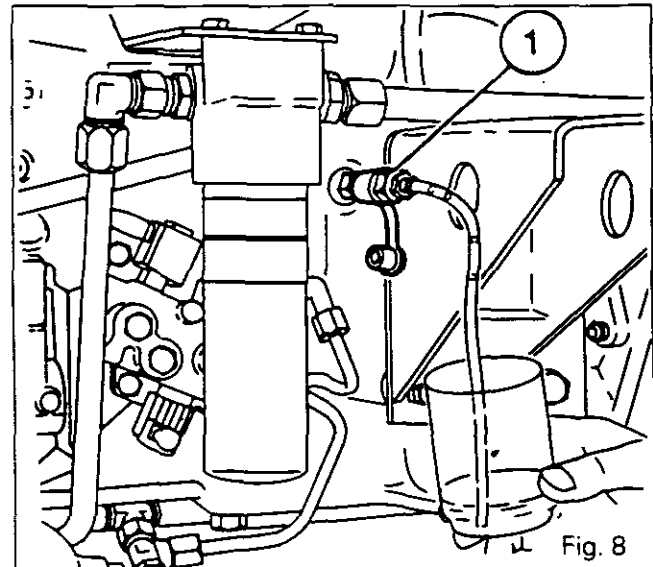

Fig. 8
2. Connect the union 3582045 M1 (1) together with its hose (Fig. 8) onto the bleed point (on the right-hand side of the gearbox).